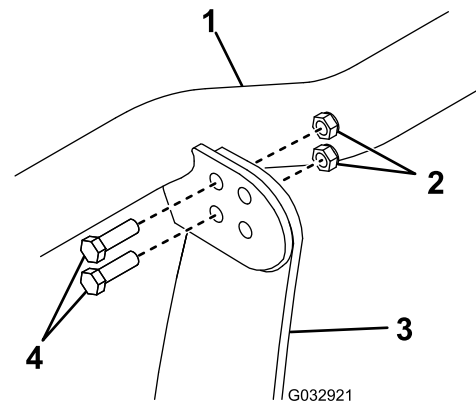

Figure 12
- Secure the light bar to the top of the coupler tower through the rear holes using 4 bolts (3/8 x 1-1/4 inch) and self-locking nuts (3/8 inch) (Figure 12). Torque the bolts to 31 N·m (23 ft-lb).